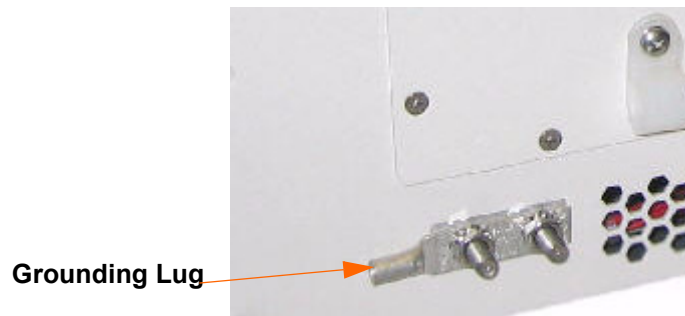

Figure 3-3 Ground lug on the Base Station
- i. Using the ground lug located in the lower left side of the back panel (See *Figure 3-3*), ground the base station using either a 10 or 12 Gauge standard insulated copper wire.